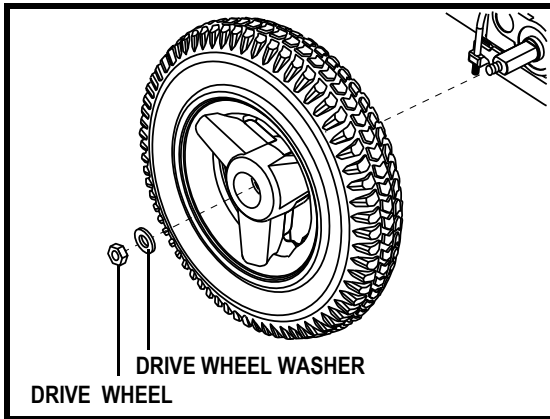

Figure 24. Drive Wheel
4. Remove the drive wheel nut and washer from the axle. See figure 24.
8. Place the new batteries in the power base. Make sure that the terminals are facing inwards. If the battery terminals are in the middle of the batteries, then make sure that the positive terminal of the rear battery is facing the negative terminal of the front battery on the left side. See figure 24.